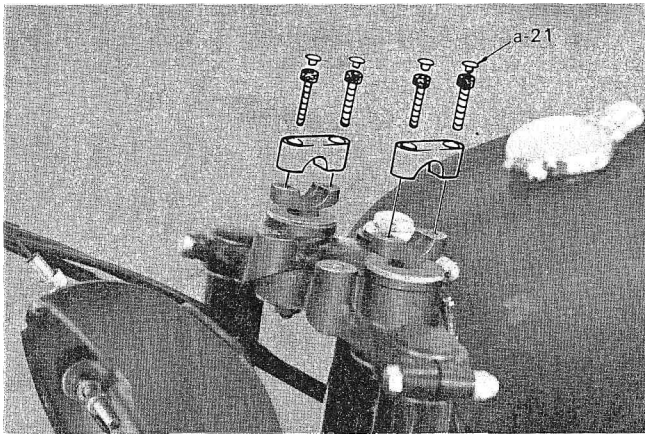

Fig. 19
15. Remove the four hexagon socket head bolts, and remove the two handle upper holders. (Fig. 19)